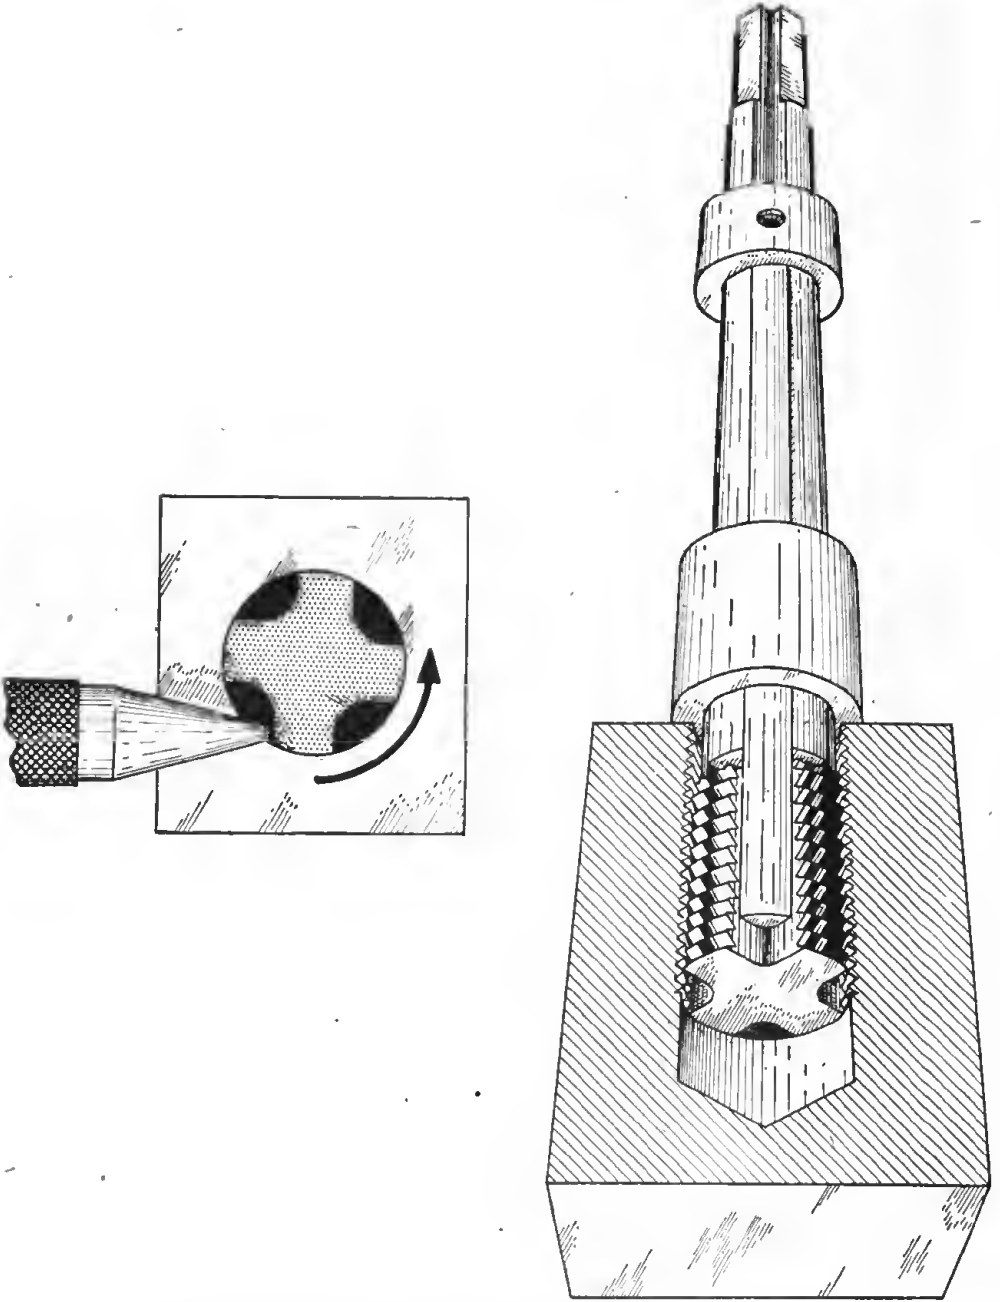

Figure 139. Removing a broken tap with a tap extractor.
(2) The hole that is to be tapped must be of the correct size. If it is too small, the tap is likely to be broken. If it is too large, the threads will not be full size and will probably strip. Figure 137 shows the proper size of hole to drill for the various sizes and types of threads. After the hole is drilled, the tap, held by the tap wrench, should be placed in the hole as shown in figure 138. The wrench should be held in the center when starting a tap as it is easier to hold perpendicularly. Pressure should be lightly applied for the first two or three turns, but not after that as the threads of the tap will draw it into the work. The tap should be turned backward about one-third of a turn on every full revolution in order to break off the chip and make the tap cut more easily. Cutting oil should be used. It will not only help prevent overheating and breakage, but will also make cleaner threads. Care should be taken not to run the tap against the bottom of the hole. When the tap can move no farther it will probably break. Once in a while a tap will break off in the hole. If it can be gripped with a pipe wrench it will be a simple matter to remove it. If it cannot be removed with a pipe wrench, it should be started out with a center punch and then removed completely with a tap extractor. (See fig. 139.)
(3) Threading with a die is essentially the same as tapping except that the threads are being cut on the outside instead of the inside. The